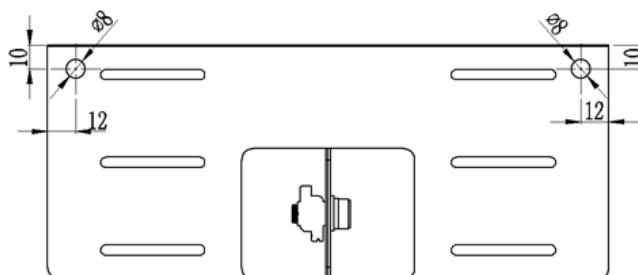

Figure 1
3.1 Drill two round holes with diameter of 8mm on Isolator Bracket (part number: EZ-IB-SR240/100) as shown in Figure 1.